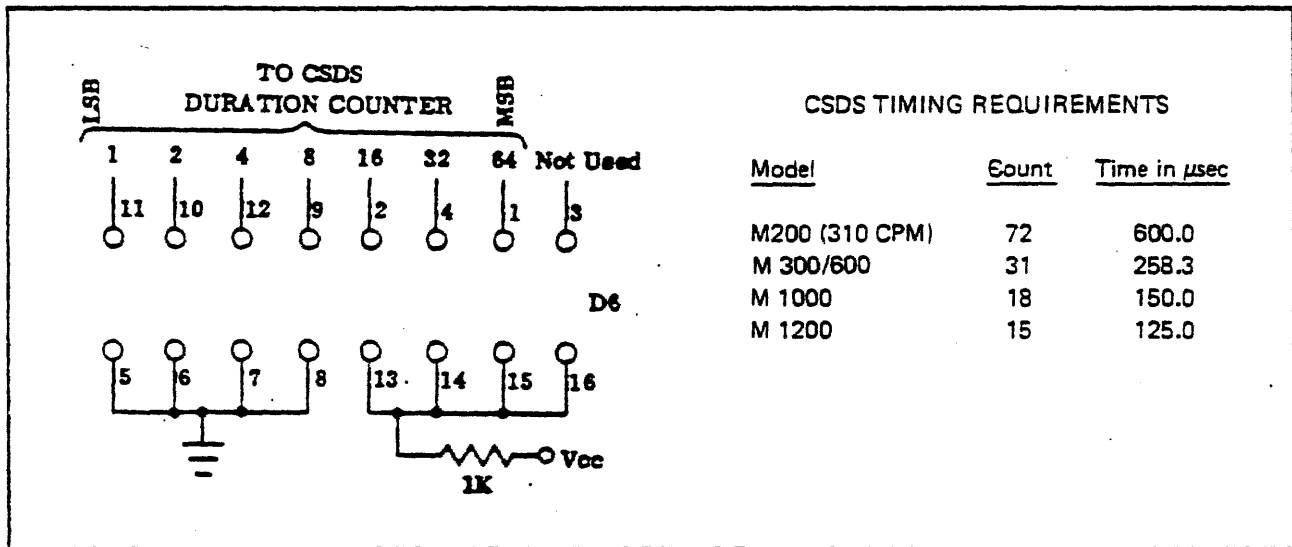

Figure 6-20. CSDS Duration Counter Strapping
- d. Change strapping on Jumper Module 6D to obtain required CSDS Duration count (Figure 6-20).